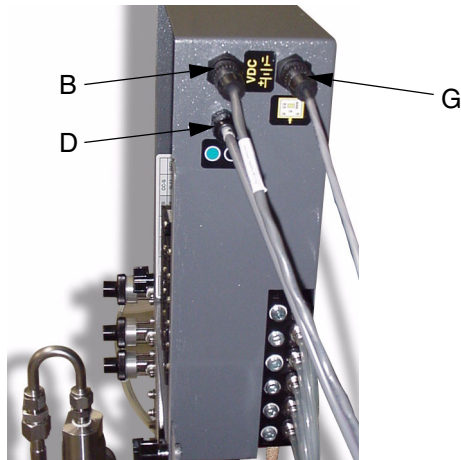

FIG. 15
2. Connect the other cable end to the Smart Fluid Panel connector (B). FIG. 15.
4. Route the opposite Fiber Optic Cable end through the Smart Fluid Panel strain relief connector (D). FIG. 15. Do not route the cable with tight bends or kinks.
Station connector (G). FIG. 15.